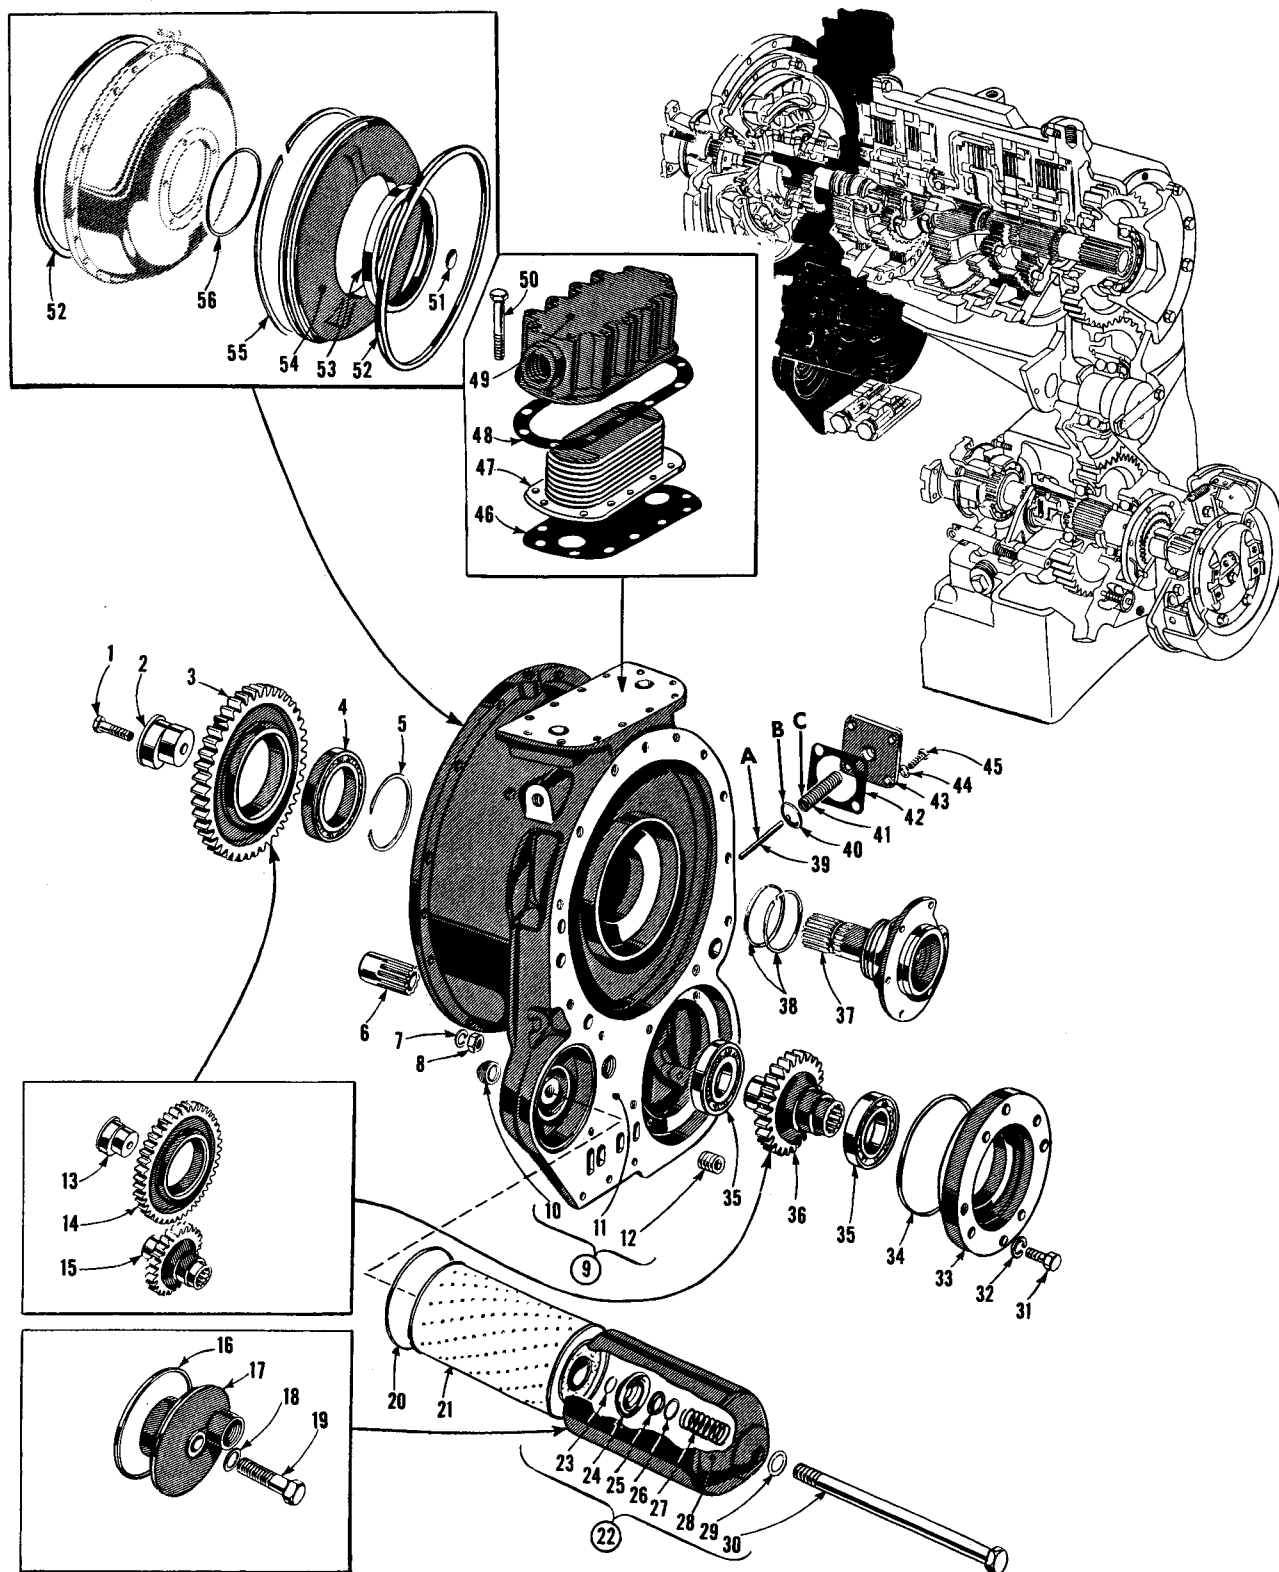

Fig VIII-1. Torque converter housing group, exploded view
### 1. CONVERTER HOUSING (FIG VIII-1)
(3) If the converter housing is equipped with a converter housing seal diaphragm (70, fig VIII-1), remove internal snap ring (71). Remove the diaphragm. Remove seal (68) from the diaphragm. Remove seal (69) only if replacement is necessary.